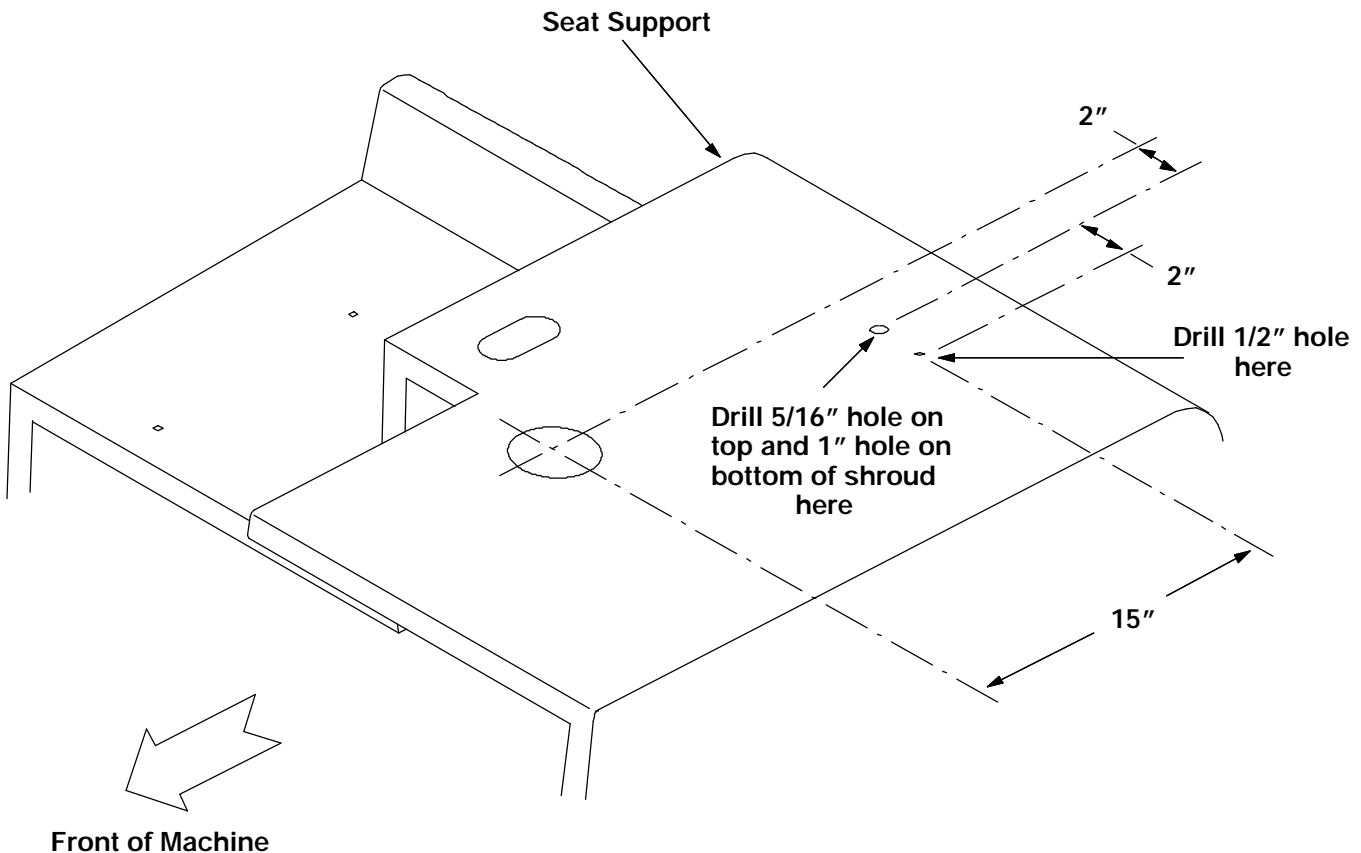

FIG. 1 - Location of Mount Holes for Revolving Light
(Refer to FIG. 1, 2 and 3)
6. Drill mount holes in seat support according to dimensions in FIG. 1.